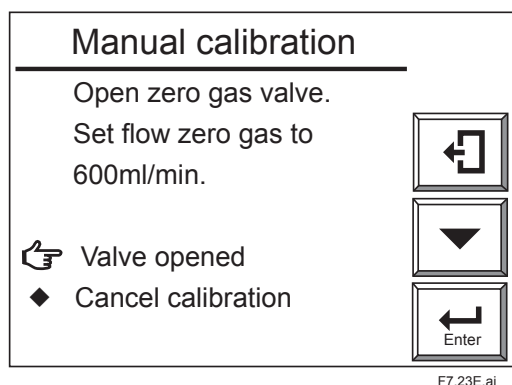
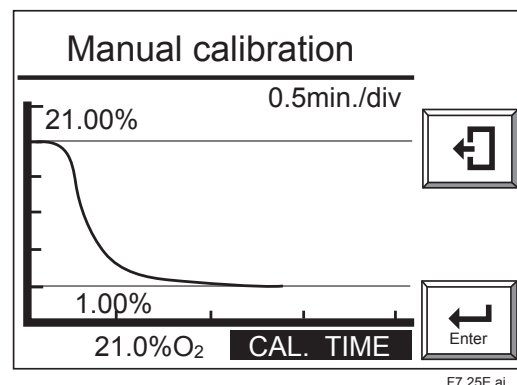

**Figure 7.32** Span Calibration Complete
**Figure 7.33** Zero Gas Concentration
- (5) After the measured value has stabilized, press the [Enter] key to display the "Span calibration complete" display shown in Figure 7.32. At this point, the measured value is corrected to equal the span gas concentration setting. Close the span gas flow valve. The valve lock nut should be tightened completely so that the span gas does not leak.
- (6) Select “Zero calibration” as in Figure 7.32 to display the zero gas concentration check display (Manual calibration) . Check that the zero gas oxygen concentration value and the calibration gas oxygen concentration value agree. Then select “Next” as in Figure 7.33.